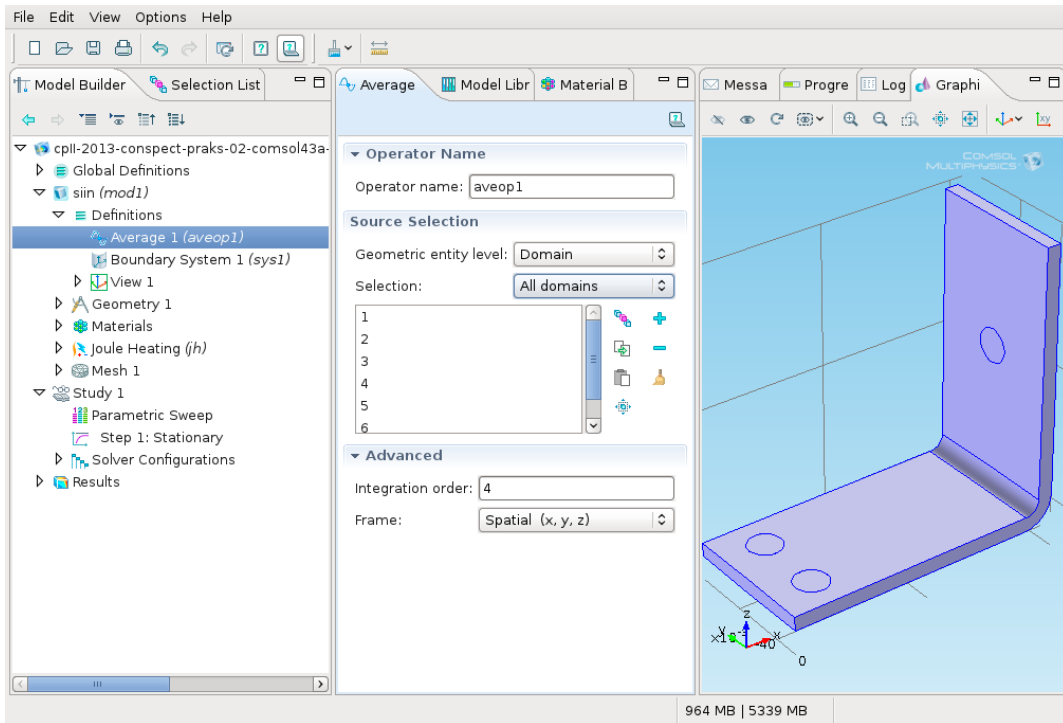

Figure 31: Creating the operator.
- 4 Next, the *Average Model Coupling* is created for later use to calculate the average temperature: *busbar* → *Definitions: right button* → *Model Couplings* → *Average*. Select all domains (Fig. 31).